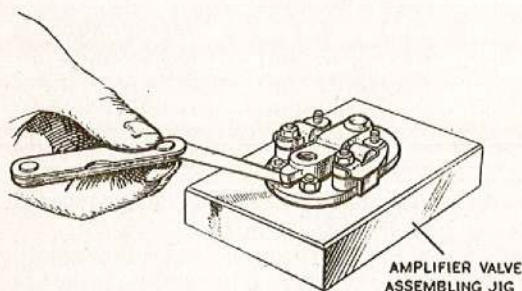

Fig. 19. Measuring the rocker lever tail gap
5. Tighten the nuts, and, whilst tightening, press the outer ends of the pivot pins into the locating holes in the rocker lever with finger and thumb of the left hand or by using the pivot retaining plates. Measure the gap between the underside of the tail of the rocker lever and the stop stud in the base plate of the amplifier valve body with a feeler gauge (fig. 19), this gap must be as specified in para. 68. If the desired reading is not obtained, shim, as required, beneath the orifice, and repeat the check until the specified